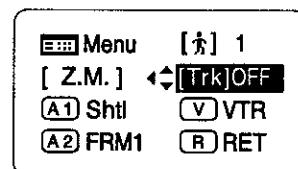

Fig. 2-9
2. Select [Trk] using the control key, and then push the Set key. [Trk] and the last setting now blink on the display. (Fig. 2-9)